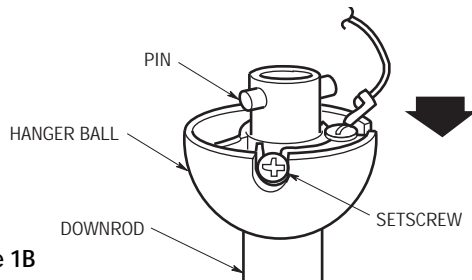

Figure 1B
2. Obtain the hanger ball/downrod assembly and remove the hanger ball by loosening the setscrew in the hanger ball until the ball falls freely down the downrod (Figure 1B). Remove the pin from the downrod, then remove the hanger ball. Retain the pin and hanger ball for reinstallation in Step 9. Discard 4-1/2" downrod if using 18" or longer downrod.